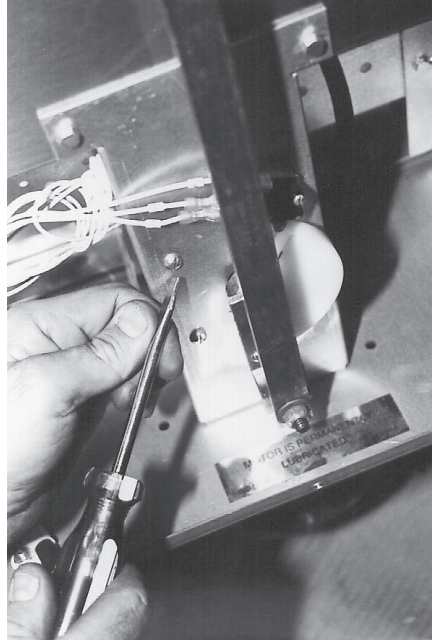

Fig. 69
6. With flat blade screwdriver, remove (2) screws holding the motor to the cam bracket assembly. (Fig. 69)